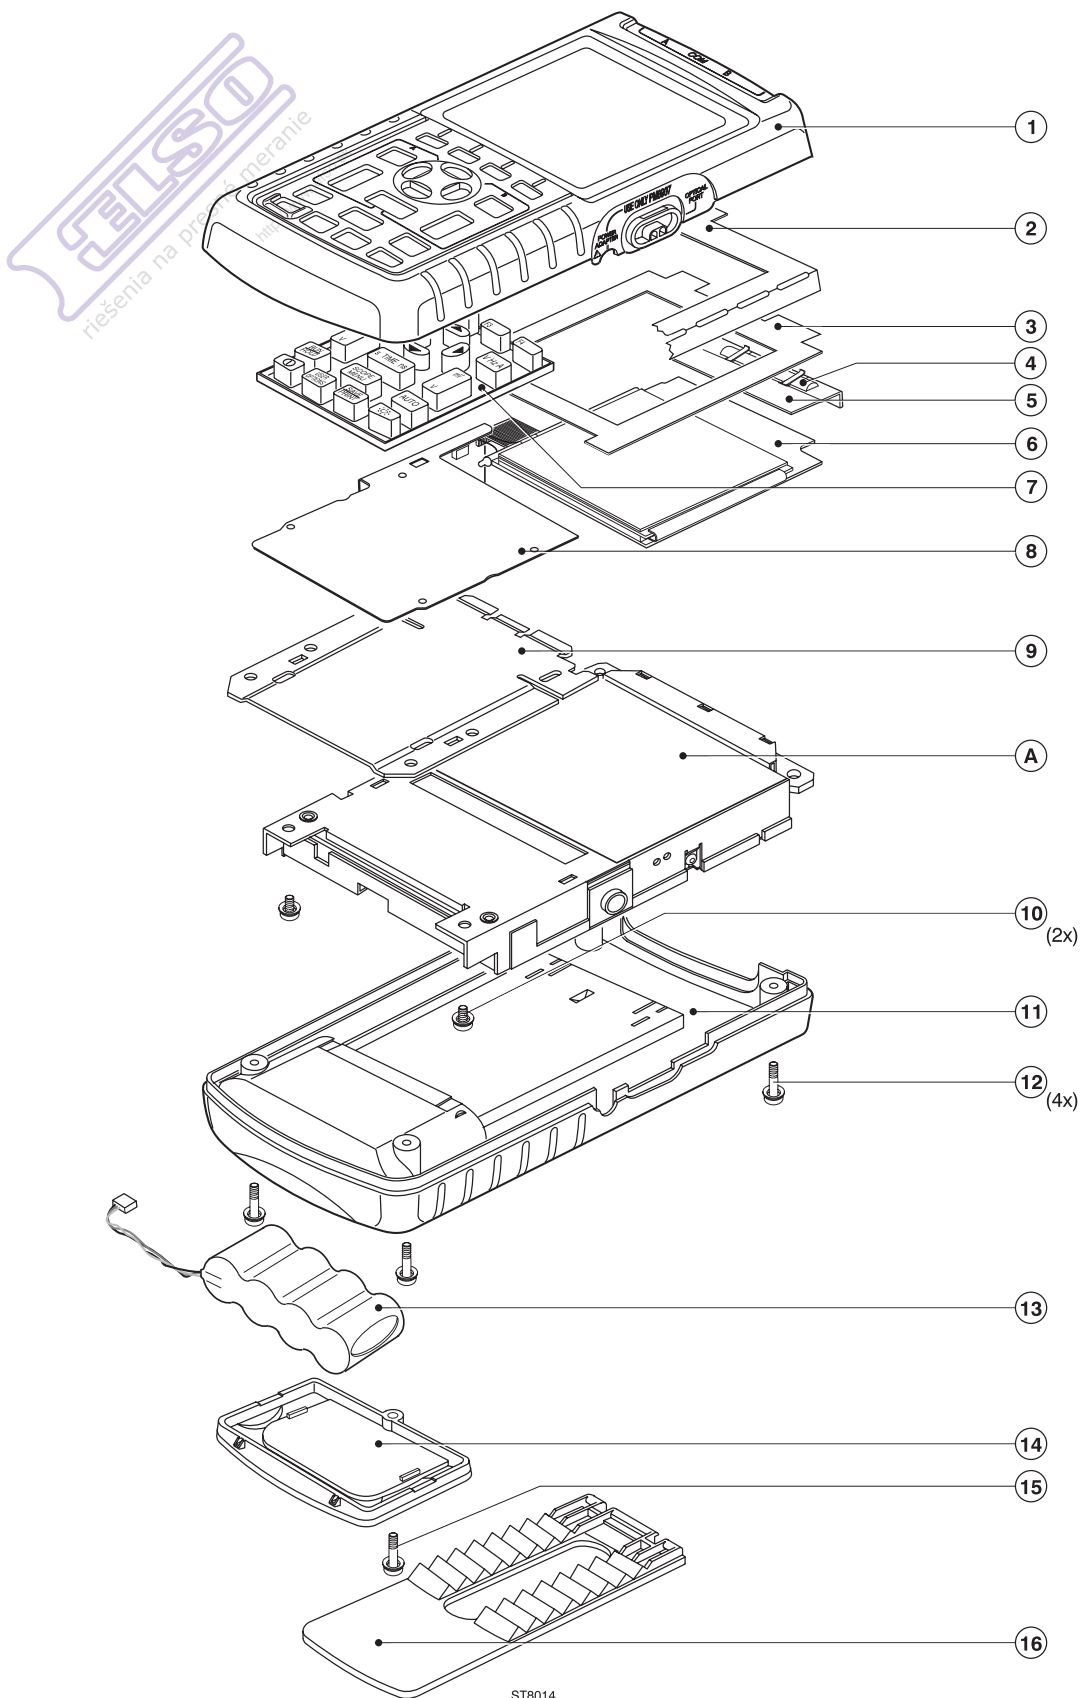

Figure 5-1. Fluke 123/124/125 Main Assembly
Referring to Figure 5-1, use the following procedure to remove the battery pack.
1. Loosen the M3 Torx screw (item 15) (do not remove it) from the battery door.
Referring to Figure 5-1, use the following procedure to remove the bail (item 16).
Referring to Figure 5-1, use the following procedure to open the test tool.
Referring to Figure 5-1, use the following procedure to remove the main PCA unit.
There are no serviceable parts in the display assembly. Referring to Figure 5-1, use the following procedure to remove the display assembly.
Referring to Figure 5-1, use the following procedure to remove the keypad and the keypad foil.
Reassembling the test tool is the reverse of disassembly. However you must follow special precautions when reassembling the test tool. Refer also to figure 5-1.